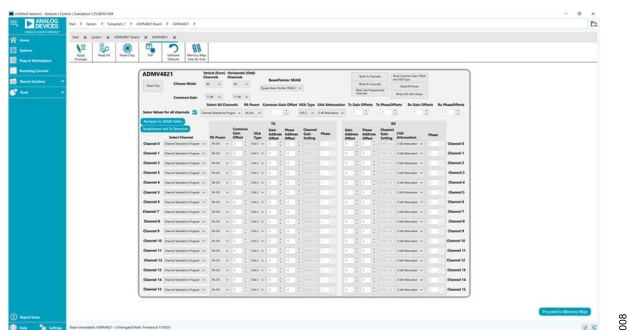

Figure 8. ADMV4821 Plugin Home Page in ACE Software
5. The ADMV4821 plugin appears (see Figure 8).